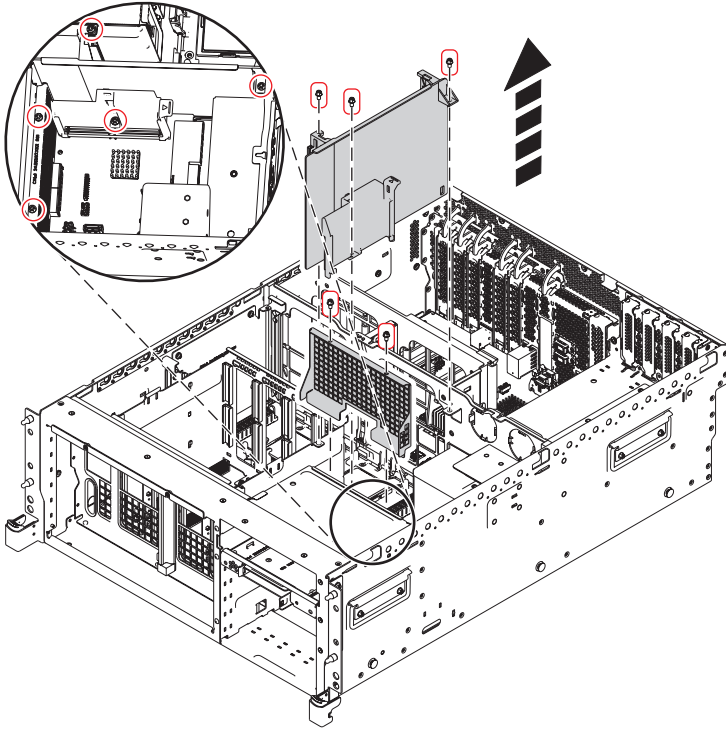
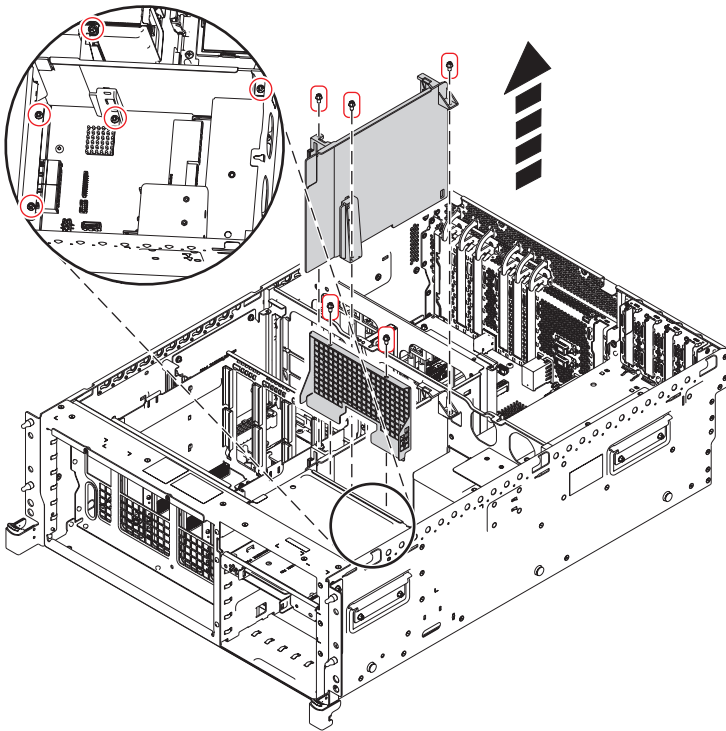

Figure 34. Removing the disk-drive cage shield from the 8202-E4B or 8205-E6B
Figure 35. Removing the disk-drive cage shield from the 8202-E4C, 8202-E4D, 8205-E6C, or 8205-E6D
- b. Remove the disk drive cage shield and the voltage regulator guide and air divider by lifting them upward. See Figure 34 on page 60 or Figure 35 on page 60.